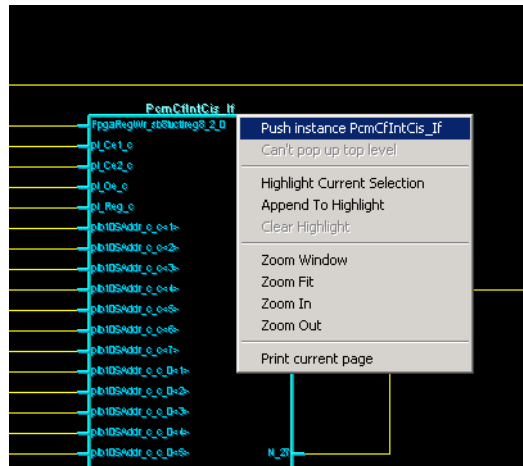

Figure 2-2. Pushing One Level Deeper into the Design
2. From the Edit menu, click **Push**. Or, from the right-click menu select Push instance <name>, as shown in Figure 2-2.